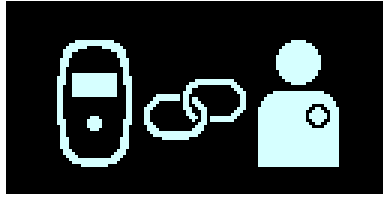

Figure 30: Charger/IPG Pairing Screen
4. The Charger/IPG Pairing screen is displayed while the Guardio Charger is actively attempting to pair with the OPTIMIZER INTEGRA CCM-D IPG. **See Figure 30.**